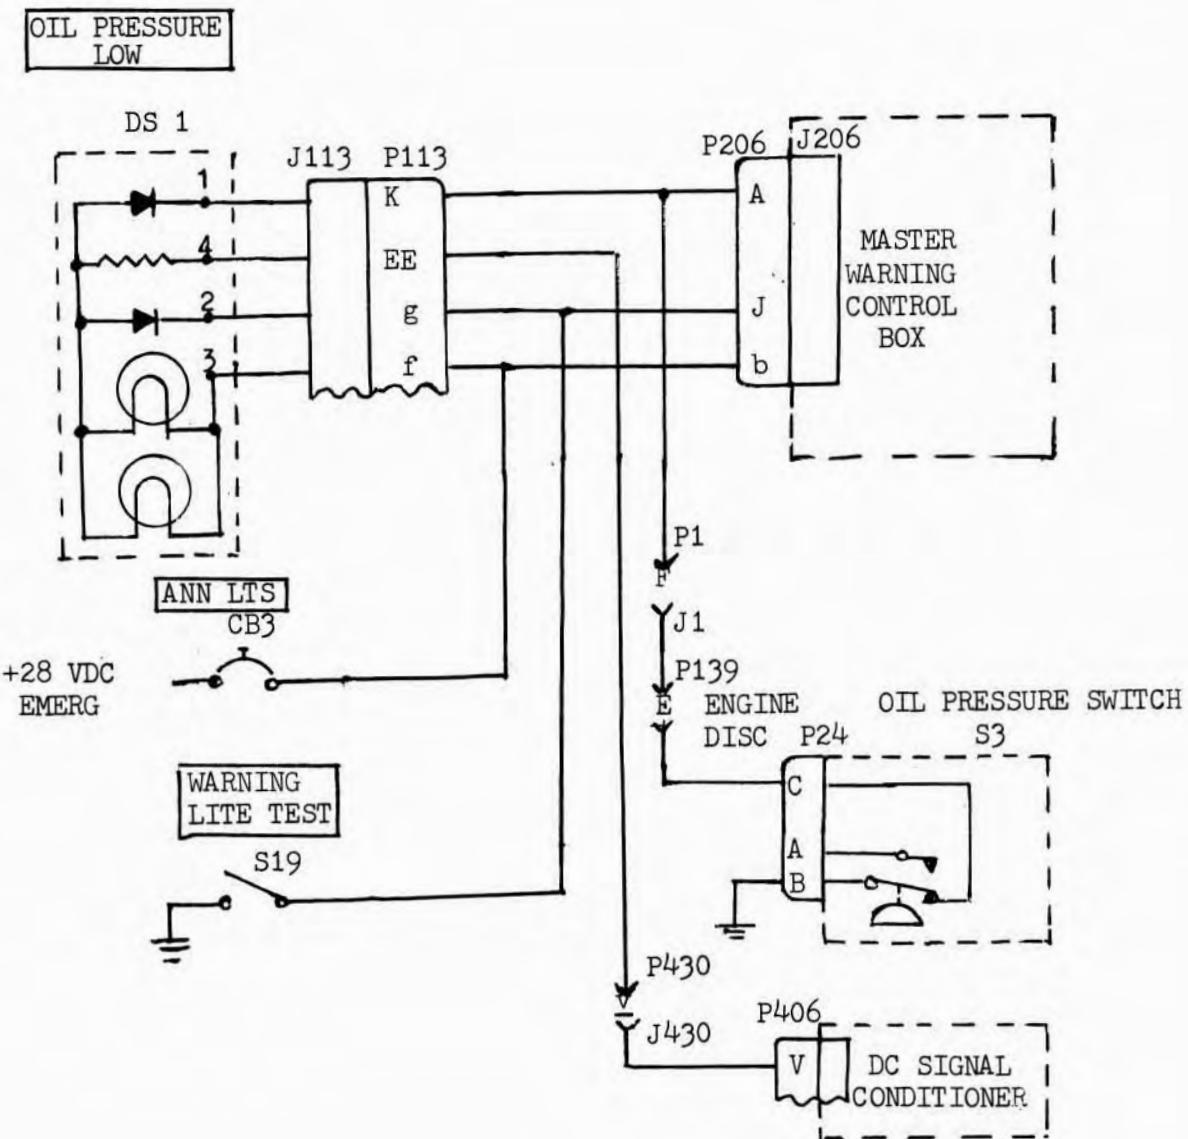
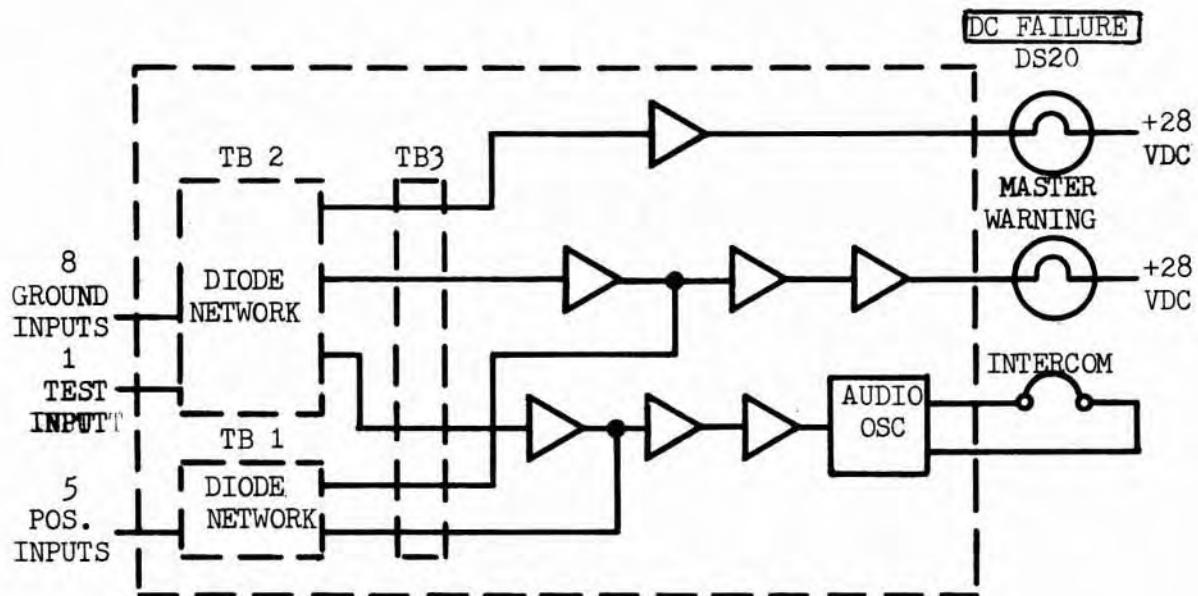

Figure 8-19. Typical Annunciator Indicator Circuit, Schematic Diagram
Figure 8-20. Master Warning Control Box, Block Diagram
8-31. The Annunciator indicators require the application of a signal to pin 1 of the indicators to turn on the lamp. The type of signal and device to activate the indicator is listed in table 8-8. A typical indicator circuit requiring a pressure switch is shown in figure 8-19. As a specific indicator is activated, a similar signal is routed to the DC Conditioner for telemetry processing.
8-32. The Oil Pressure Low Indicator circuit (figure 8-19) is typical of the indicators listed in paragraph 8-31, except the H₂O₂ indicator, which is a dual indicator. Whenever the oil pressure is below 15 ± 2 psig the Oil Pressure switch closes and grounds pin 1 of DS1. With circuit breaker CB3 normally closed the indicator illuminates. The same ground is also applied to the one of the inputs of the master warning control box (figures 8-20 and 8-21). The Annunciator indicator and the master warning control box can both be tested by placing Warning Light Test switch S19 in the test position.
8.34. A simplified block diagram is provided in figure 8-20. See Bell drawing 7260-301721 for schematic of the amplifiers. With a red warning indicator activated, (table 8-7) a similar input is routed to the appropriate input terminal board. The terminal board diodes and resistors route the input to the master warning indicator driver amplifier channel and to the audio oscillator trigger stages. The ground inputs require an inverter stage and then become common with the positive input.